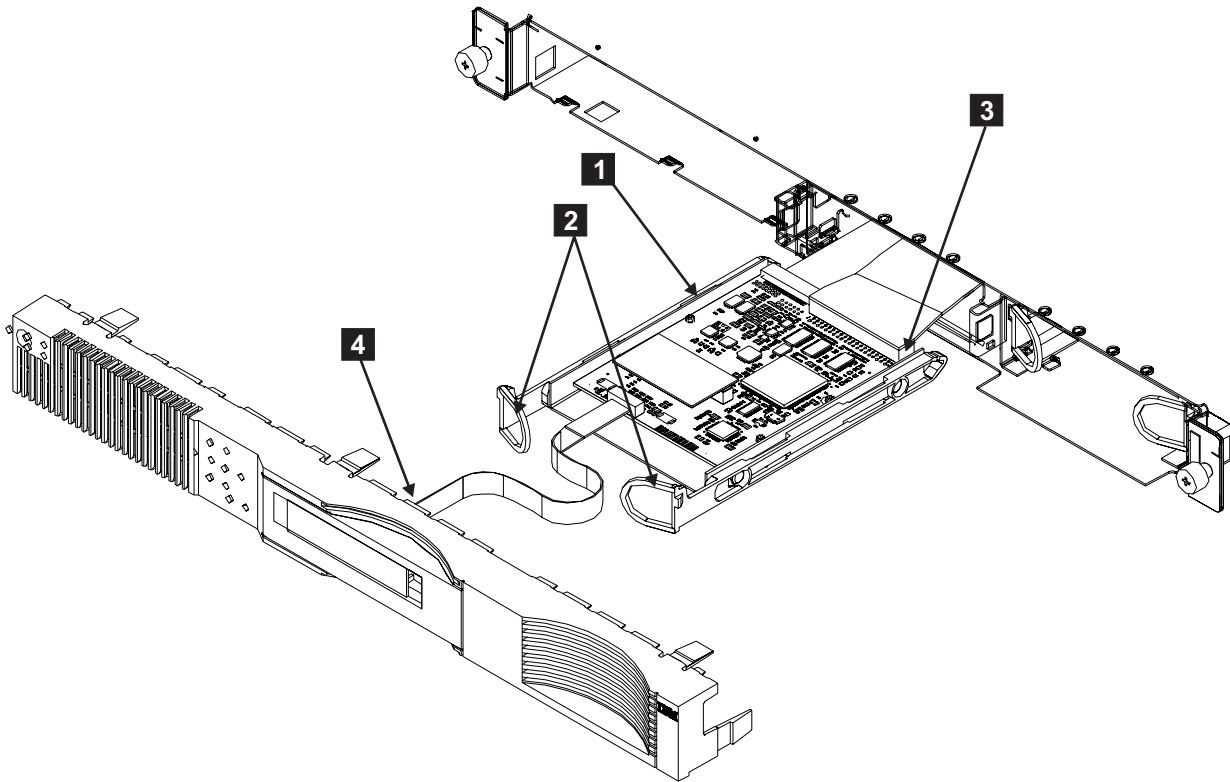

Figure 89. Removing the service controller
1. Refer to Figure 89 on page 174.